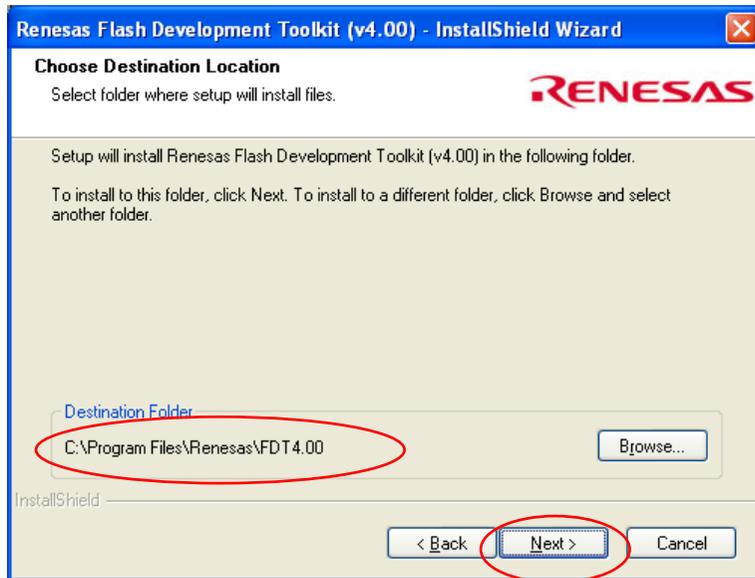

Figure 61
9. Choose the files destination location. You may browse to customize the location, but we recommend you use the default setting. Select 'Next'. (Figure 61)